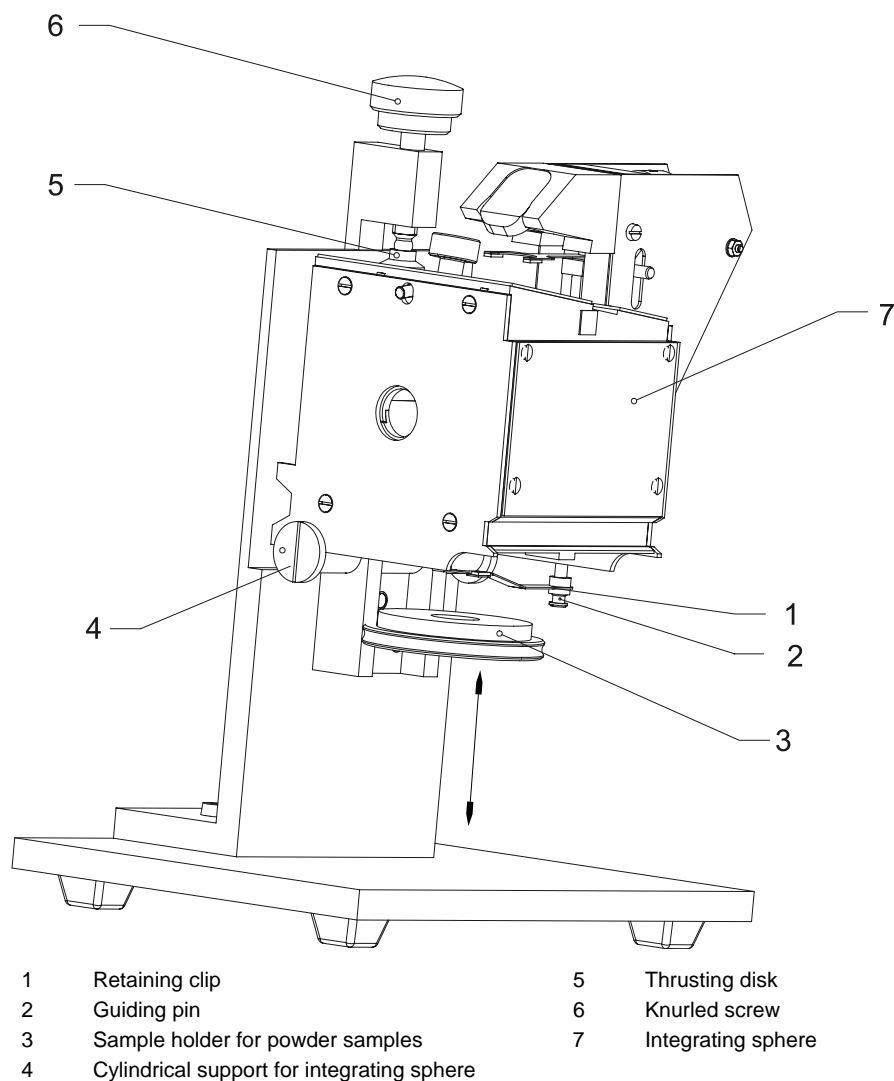

Fig. 19-4 Integrating sphere with sample-loading fixture
Uncompressed powder samples must be loaded outside the SPECORD®. For that, a special holding fixture (Fig. 19-4) is provided.
9. Place the sphere onto the support (Fig. 19-4 / 4). Turn knurled screw (Fig. 19-4 / 6) to move the thrusting disk (Fig. 19-4 / 5) towards the sphere body. Fasten the knurled screw only as much as is necessary to hold the sphere body reliably.
10. Put the sample holder (Fig. 19-4 / 3) into the recess located at the underside. Slightly clamp the sample holder by means of retaining clip (Fig. 19-4 / 1) by pushing down the clip on the guiding pin (Fig. 19-4 / 2).
4. If you have to analyze a powder sample, fill it into the corresponding holder (Fig. 19-1 / 21) outside the SPECORD®. Accommodate the sphere body in the sample-loading fixture (Fig. 19-4). Attach the holder for powder samples to the sphere body.